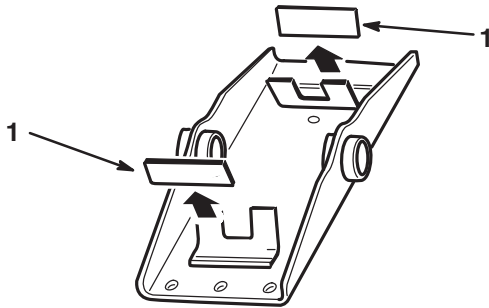

Figure 3
11. Cut off the outer flange of each axle stop as shown in figure 3.